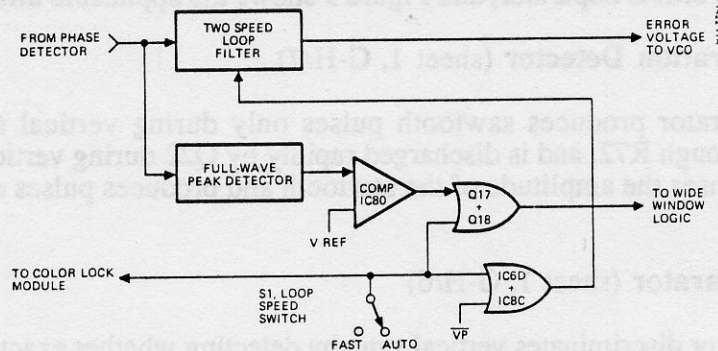

Figure 6. Two-Speed Loop Filter, Block Diagram
The circuit which includes IC2, R20-R22, and C6-C7, is the Loop Filter (Figure 6). The speed of the loop is selected by the FET switch, Q7. An out-of-lock or excessive time-base error condition is sensed by monitoring the sample-and-hold phase detector output voltage. Full wave peak detector D7 and D8 (Loss of Lock Detector) senses if the dynamic phase error has exceeded approximately 1 microsecond. If so, voltage comparator IC8(D)'s output will go positive. This will activate three conditions: (1) turn on loss of lock indicator D12, (2) activate the fast loop speed via D10, D1, and Q10, and (3) put the window into the WIDE mode. Switch S1 in FAST position activates the following: (1) forces loop into fast mode via IC6(D), IC8(C), and D9, (2) activates the wide window, and (3) forces the phase-locked loop on the Color Lock Module into fast mode.